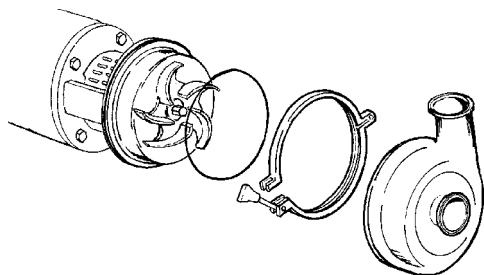

Figure 23 - Install Casing
28. Install casing O-ring on backplate and clamp casing in place. (Figure 23).